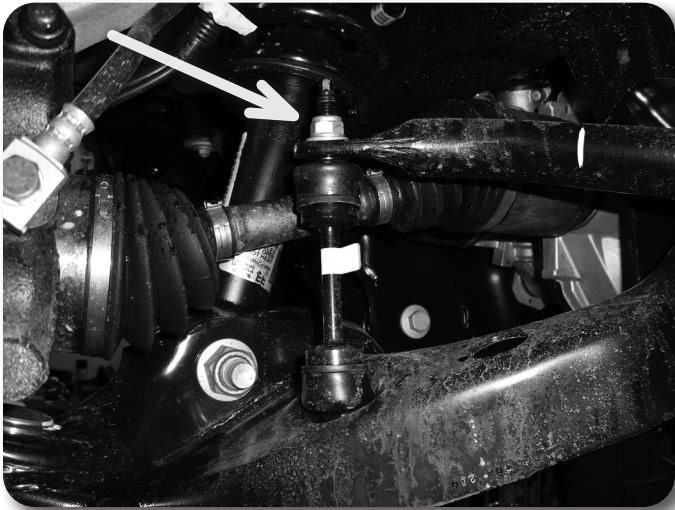

Figure 5A
10. Disconnect the sway bar links from the sway bar **Figure 5A**. Retain hardware. The sway bar links do not need to be removed from the lower control arms.